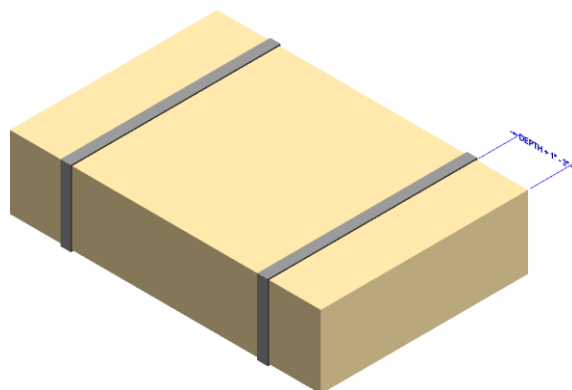

Figure 6: Band closure FT-DST
- **FT-DST** (Full Telescoping Design Style Tray Container – 2 piece box, bottom and telescoping lid), See Figure 6.